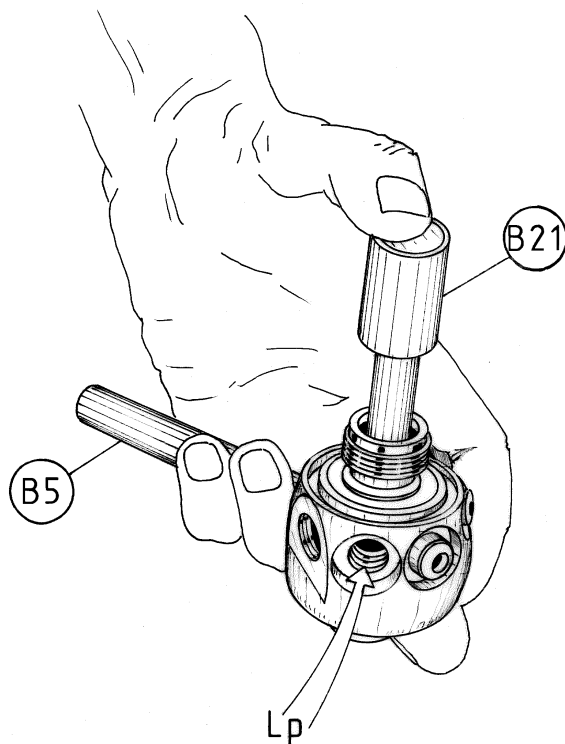

FIG. 3
11. Position the special tool (B-21) on the 1st Stage poppet seat (75) and exert a slight pressure on it. Supply with compressed air (110 p.s.i. - less than 7 BAR) through a low pressure port. (Fig. 3)